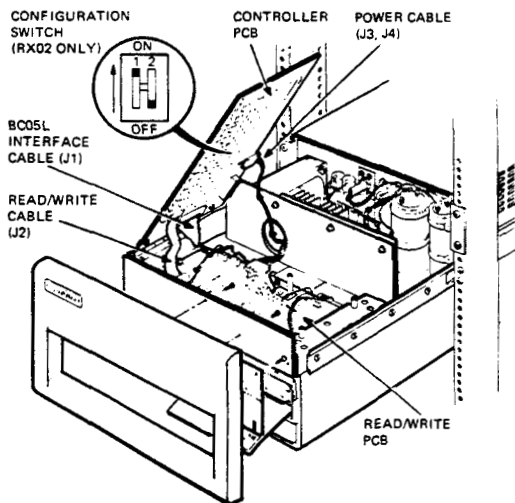

Figure 2-3 Controller Board Connections
8. Remove the three screws securing the controller to the chassis. Note the position of any nylon washer. Swing the board upright. Remove connector J1 of the interface cable from the controller board (Figure 2-3). Swing the board down.
Perform the following procedure to remove and install the controller board. Refer to Figure 2-3.
5. If the controller is an RX02, make the proper switch settings on the new controller board (Figure 2-3). Refer to Table 2-1.
3. Remove the power board connectors from J2 on the read/write board and J3/J4 on the controller board (Figures 2-3 and 2-4).
3. Remove the power board connectors from J2 on the read/write board and J3/J4 on the the controller board (Figures 2-3 and 2-4).